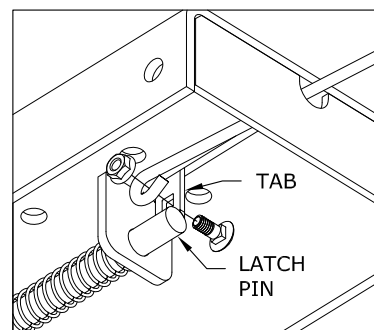

FIGURE F2: Handle Installation
2. Secure the handle to the pin with the $\frac{5}{16}$ " X $\frac{3}{4}$ " carriage bolt and $\frac{5}{16}$ " locking flange, see figure F2. Note: The included $\frac{5}{16}$ " cap screw can replace the carriage bolt if wrench access on the "cab side" of the handle is limited. Tighten the nut until it is secure. Do not over-tighten and deform the handle eyelet.